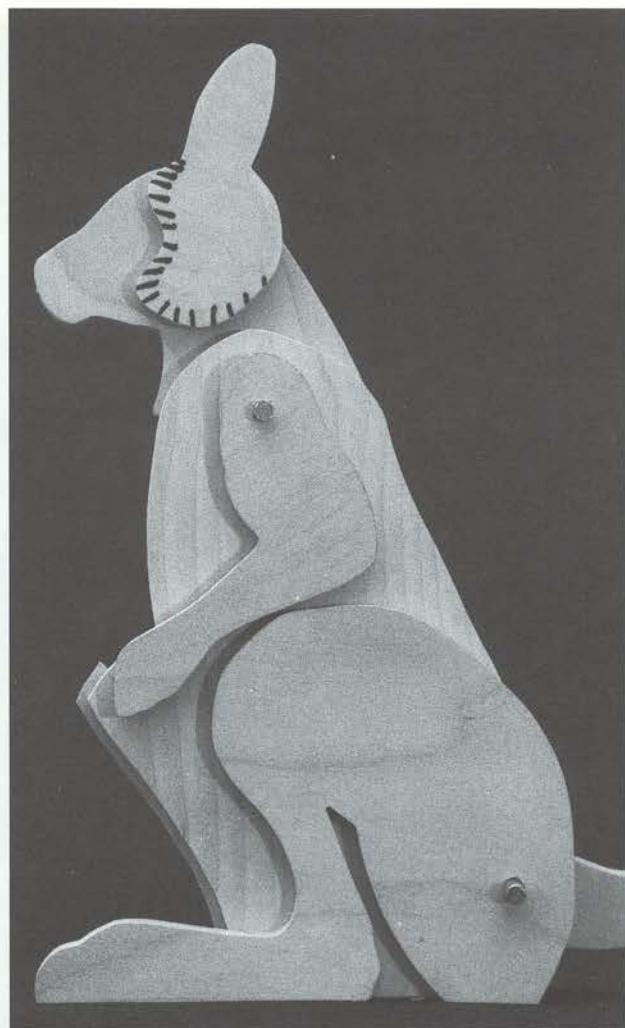
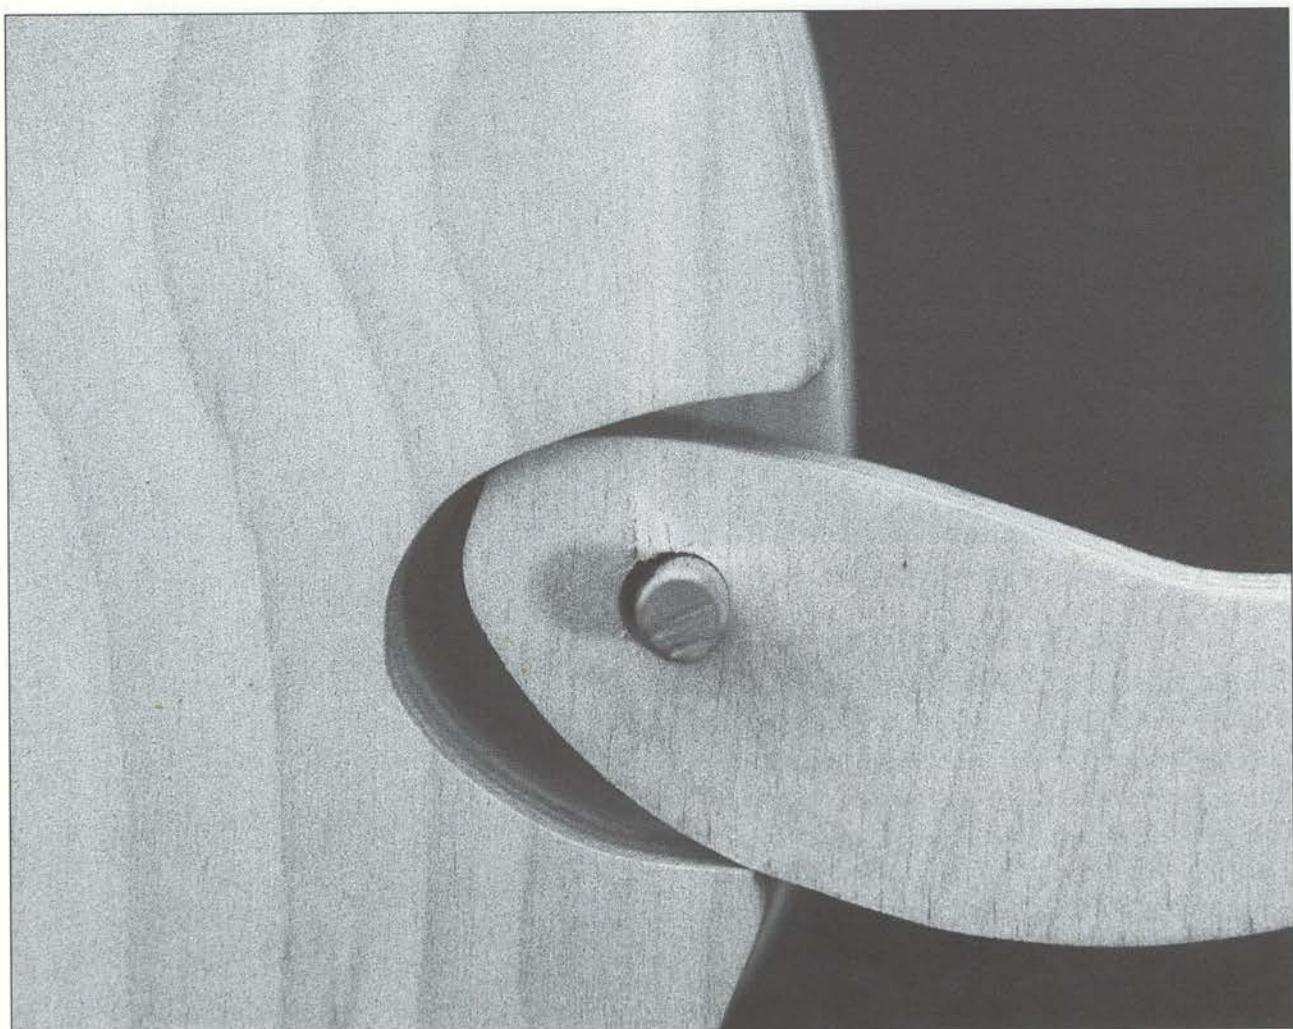

Fig 4.7 Assembling the parts to check the fit.
Fig 4.9 The base of the tail (G) fits into a recess in part A. The metal rod holds the tail in place.
Insert one of the two $2\frac{1}{16}$ in x $\frac{1}{4}$ in (68 x 6mm) metal dowels into each of the two holes in the body. Before inserting dowel into the lower hole, fit the tail (G) into place in the recess in the body as shown in Fig 4.9. Then place the fore and hind legs temporarily in position on the ends of the dowels to check for free movement (see Fig 4.7). If the movement of any of the parts is stiff, remove the part and open up the hole slightly with a small round file. When you are satisfied with the movement of all parts, disassemble the parts and remove the metal dowels.
When the paint has thoroughly dried, place the base end of the tail into the recess of the kangaroo's body and insert a steel dowel through hole in the body and tail (see Fig 4.9). Insert the other metal dowel through the hole in the shoulder area of the kangaroo. Should paint be clogging any of the holes, clean them out with a small round file.